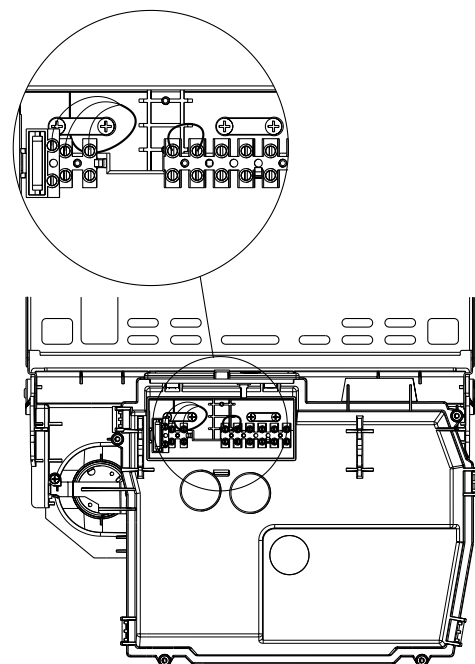

Fig. 14
The appliance terminal strip is located behind the control fascia (fig. 14).
4.7.3 CONNECTING THE MAINS (230V) INPUT (fig. 14)